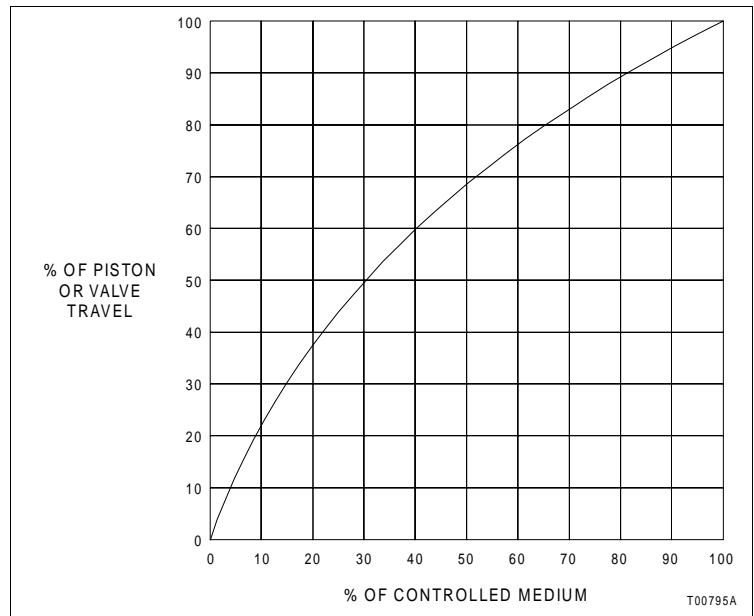
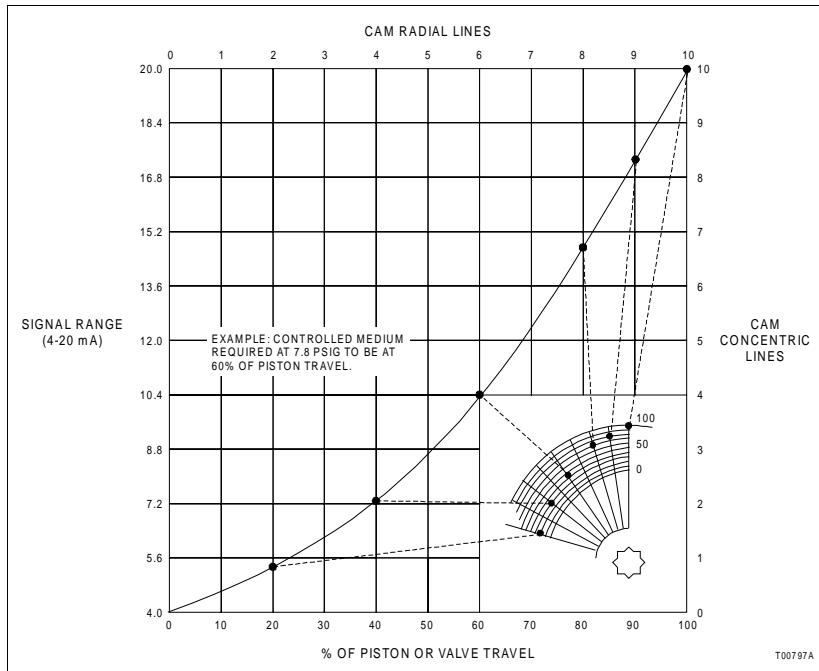

Figure C-4. Regulated Device Characteristics
Figure C-7. *Transferring Data from the Graph to the Cam*
1. With the B (linear) cam in place, determine and plot the actual controlled medium versus piston (or valve) position characteristic by manually adjusting valve position and measuring the controlled medium (Fig. C-4).
3. Using values determined in Steps 1 and 2, plot a curve for the exact control signal versus piston (or valve) characteristic that will produce the results of Figure C-7 from a cylinder or actuator which performs as in Figure C-4. In the examples shown, the required curve is a mirror image of the Step 1 curve taken about the Step 2 curve (Fig. C-7).
Continue in this manner until all the radial lines are marked with a signal pressure point. (Example: in Figure C-7, the graph calls for a signal of 10.4 milliamps at 60 percent travel position. On the 60 percent travel radial line of the cam, a mark is placed at concentric line 4, representing that pressure.)